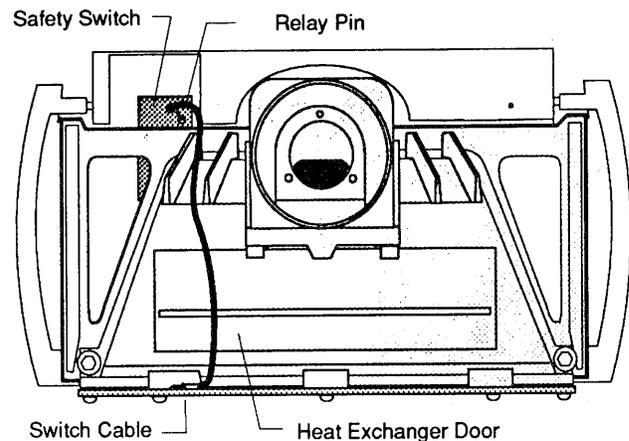

Figure 40a. Switch Cable Position.
Step 2. Be sure that the switch cable is slack and positioned over the top of the Heat Exchanger Door as in Fig. 40a.